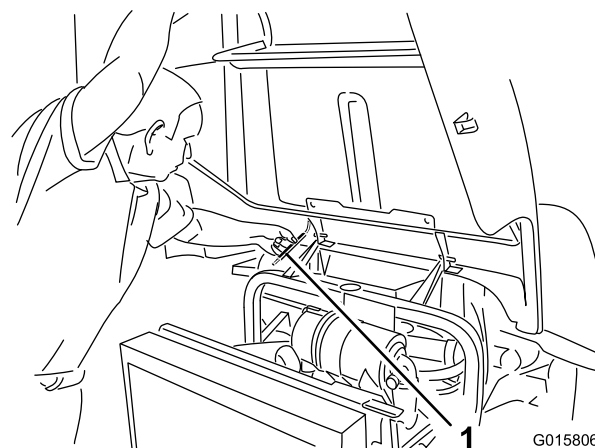

Figure 26
2. Lift up on the hood until the prop rod can be positioned behind the frame tube (Figure 26).